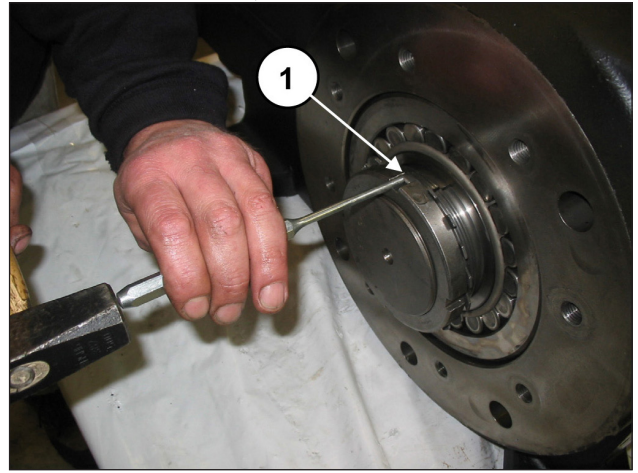

Fig. 15
Raise the tab of the safety washer (pos. ①, Fig. 15).